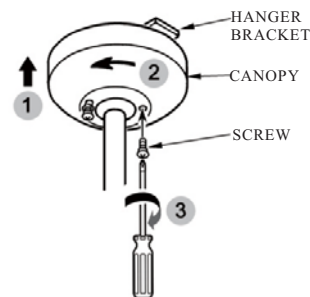

FIG.9
4. Mount the canopy on the hanger bracket and tighten the screws. (see Fig. 9)